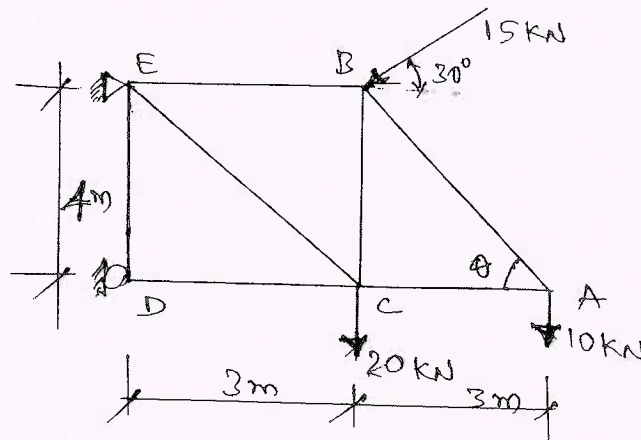

Fig.Q1(c)
c. Find the forces in all members of the pin jointed truss shown in Fig.Q1(c) by method of joints.